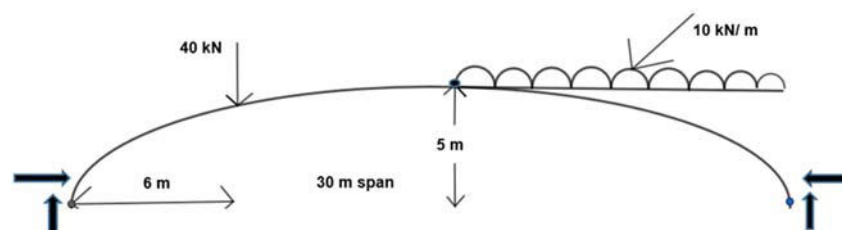

Fig.11
- a) A three hinged parabolic arch of span 30 m and central rise of 5m. It is subjected to a concentrated load of 40 kN at 6 m span. Calculate the normal thrust, shear force and bending moment at 6 m from the left support. See fig.11.